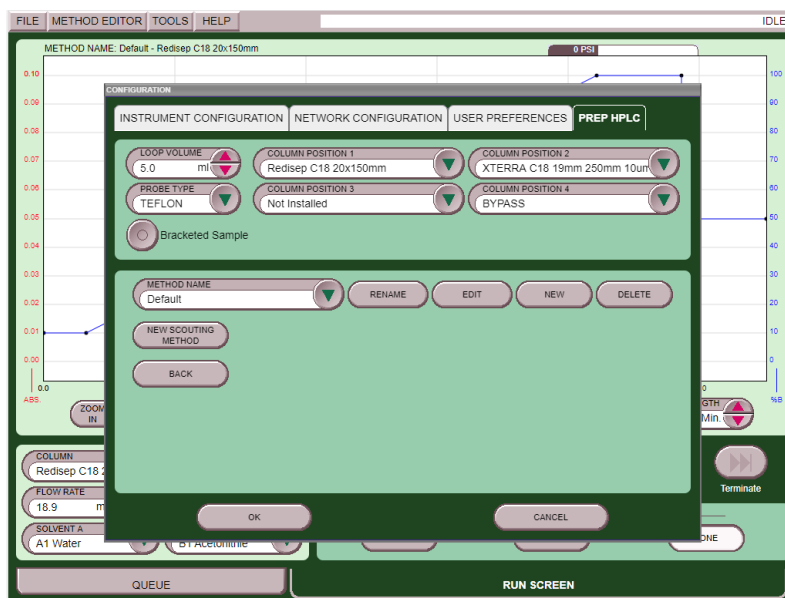

Figure 2-3 Define Methods screen
2. Press the DEFINE METHODS button (Figure 2-3).